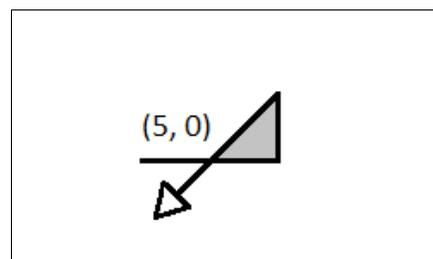

Figure 2:
6. *Move forward 10.* If this instruction were completed, it would move the laser to approximately $(2.93, -2.07)$. However, along the way the laser will intersect one of the previous cuts it made, making a hole and interfering with the mobility of the vehicle. (See Figure 2) Thus, this instruction (and all following instructions) cannot be completed.